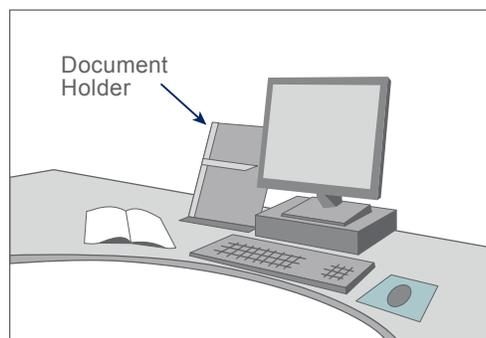

Figure 4.
- For tasks in which the operator must read documents in addition to looking at the screen, place the document holder immediately adjacent to the visual display (see Figure 4).